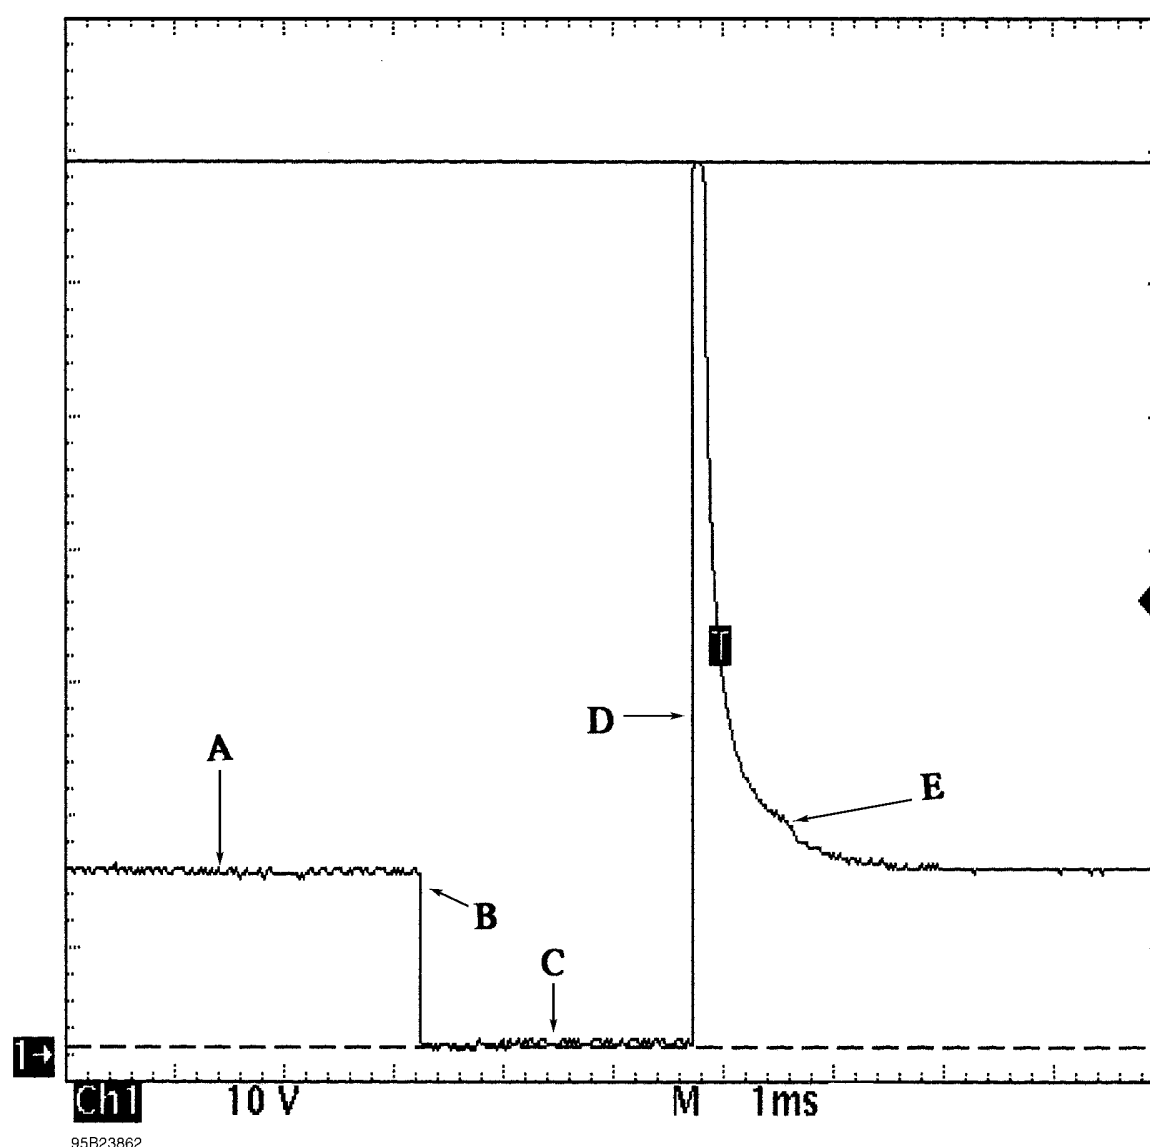

Fig. 2: Identifying Voltage Controlled Type Injector Pattern
- See Fig. 2 for pattern that the following text describes.